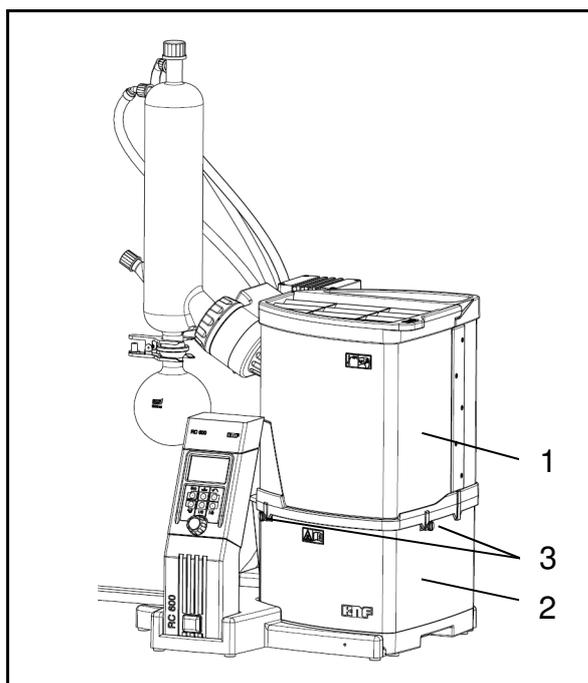

Fig. 7: Protective cover closed
1. Place the protective cover (Fig. 7/1) on the heating bath (2).
2. Fasten the protective cover (1) to the heating bath: